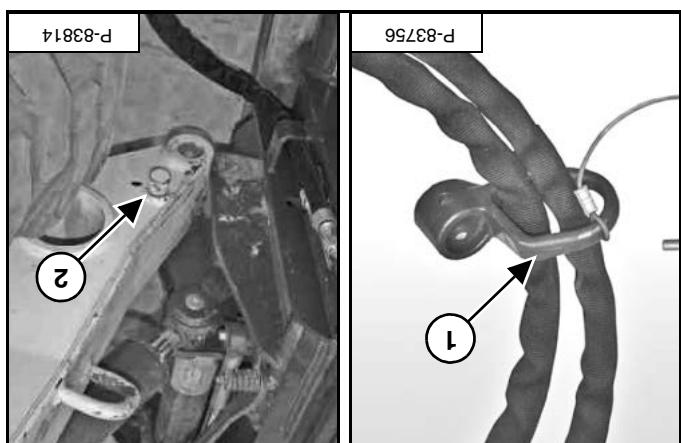

Figure 20
NOTE: Some attachments are factory equipped with a removable hose guide (item 1) installed on the hydraulic hoses. The removable hose guide is factory installed for use with Bobcat mounting post kits (item 2) [Figure 20]. Removable hose guide is factory installed for use with Bobcat loaders equipped with a mounting post (item 1). Hose guide styles vary between loader Bobcat dealers.